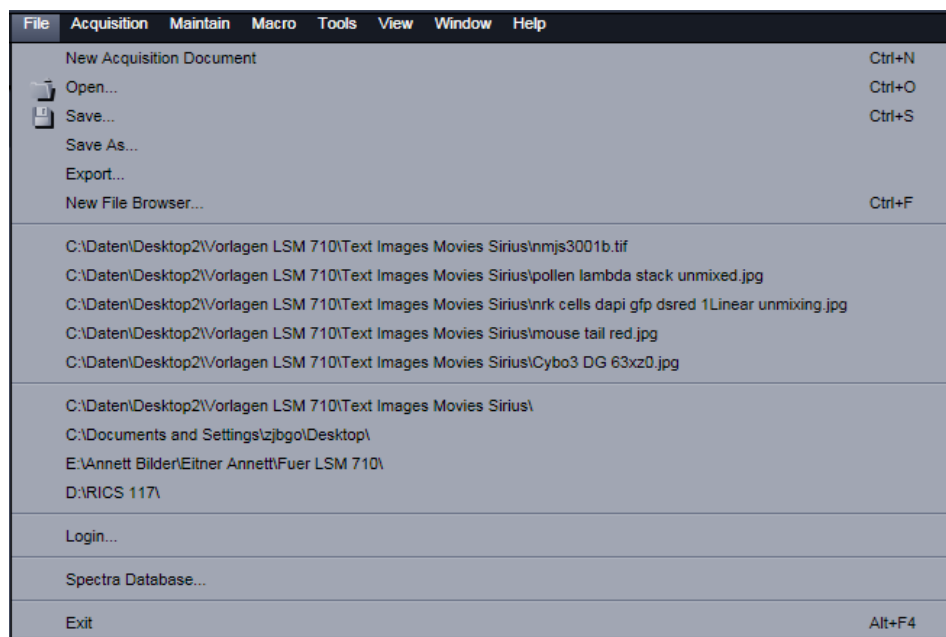

Fig. 11 File menu
- This displays the menu shown in Fig. 11.